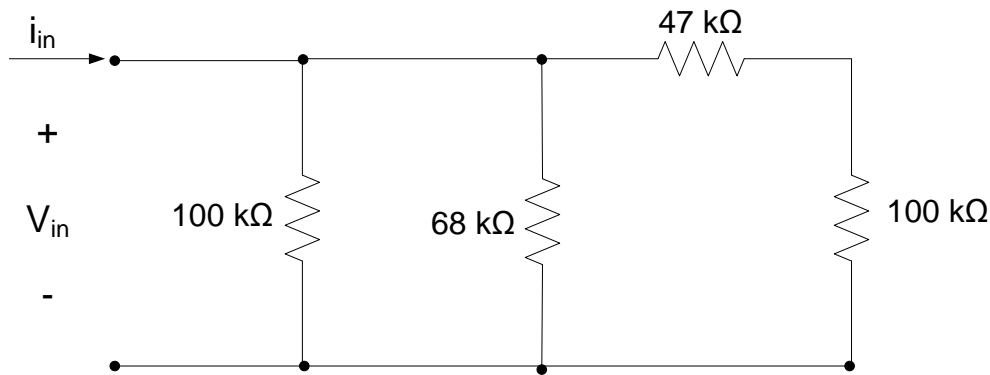

Figure 1. Circuit schematic.
The *input resistance* of a circuit is the effective resistance that a source (or another stage of an overall system) will see when it is connected to the circuit. This value can be an extremely important design parameter for a circuit. In this part of the lab assignment, we will determine the input resistance of the circuit shown in Fig. 1.
Determine the relationship between V_{in} and i_{in} for the circuit shown in Fig. 1. Defining the input resistance according to Ohm's law as $R_{in} = \frac{V_{in}}{i_{in}}$, determine the input resistance of the circuit of Fig. 1.
1. Construct the circuit of Fig. 1. Measure and record the actual resistance of all resistors used in your circuit. Use a variable voltage supply (the arbitrary waveform generator of the Analog Discovery will work) to apply V_{in} and i_{in} to the circuit. For at least five different values of V_{in} between 0V and 5V, measure V_{in} and i_{in} .